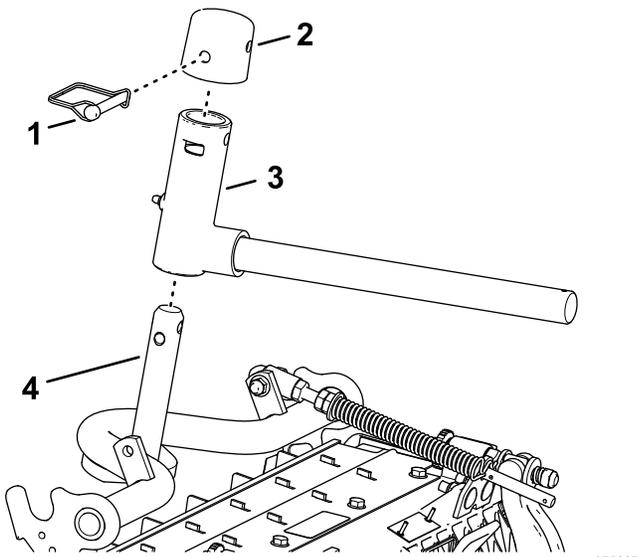

Figure 20
2. Assemble the pivot yoke onto the carrier frame shaft (Figure 20).